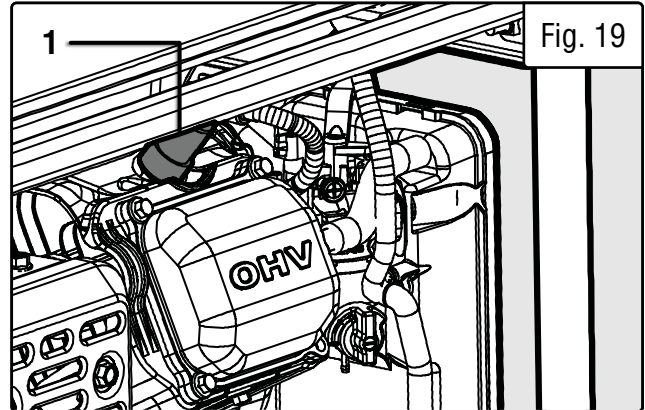

Fig. 19
1. Gently pull on the spark plug boot (Fig. 19 - 1) to remove it. Be careful not to tear any insulation or wire.